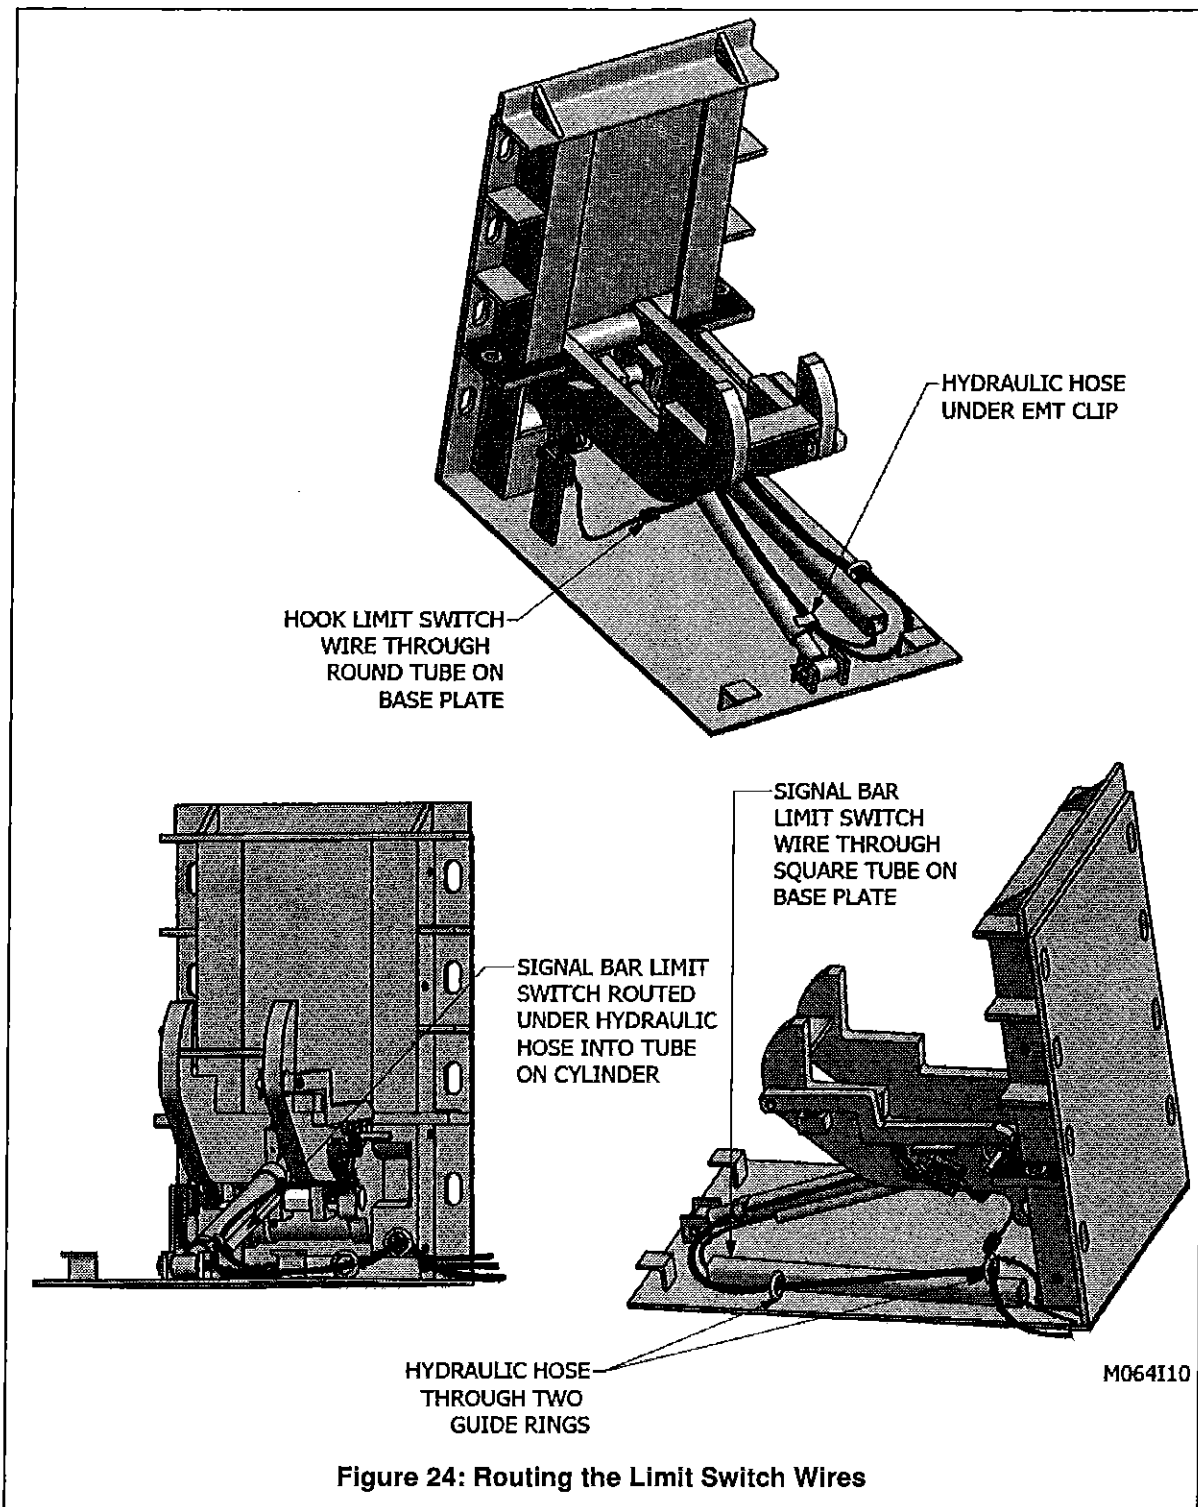

Figure 24: Routing the Limit Switch Wires
2. Run wires from the three limit switches on the vehicle restraint to a waterproof junction box (supplied by others) and connect to the appropriate leads. Ensure the limit switch wire for the signal bar is routed through the tube provided along the side of the hydraulic cylinder and all three limit switch wires go through the tube provided on the base plate of the restraint. Keep the limit switch wire for the signal bar above the hydraulic hose after exiting the tube on the cylinder and before entering the tube on the base plate. See Figure 24, page 22.